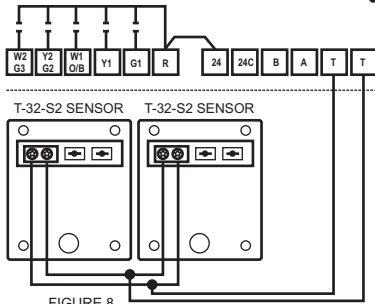

FIGURE 8
Figure 8 shows (2) T-32-S2 sensors used for